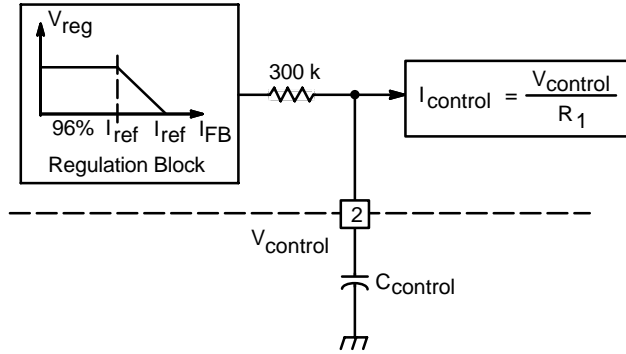
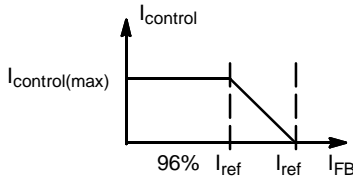

Figure 30.  $V_{control}$  Low-Pass Filtering
Figure 32. Regulation Block
Control current  $I_{control}$  is a roughly constant current that comes from the PFC output voltage  $V_{out}$  that is a slowly varying signal. The bandwidth of  $I_{control}$  can be additionally limited by inserting an external capacitor  $C_{control}$  to the control voltage  $V_{control}$  pin (Pin 2) in Figure 30. It is recommended to limit  $f_{control}$ , that is the bandwidth of  $V_{control}$  (or  $I_{control}$ ), below 20 Hz typically to achieve power factor correction purpose. Typical value of  $C_{control}$  is between 0.1  $\mu F$  and 0.33  $\mu F$ .
Feedback current  $I_{FB}$  which represents the output voltage  $V_{out}$  is processed in a function with a reference current ( $I_{ref} = 200 \mu A$  typical) as shown in regulation block function in Figure 32. The output of the voltage regulation block, low-pass filter on  $V_{control}$  pin and the  $I_{control} = V_{control} / R_1$  block is in Figure 30 is control current  $I_{control}$ . And the input is feedback current  $I_{FB}$ . It means that  $I_{control}$  is the output of  $I_{FB}$  and it can be described as in Figure 32. There are three linear regions including: (1)  $I_{FB} < 96\% \times I_{ref}$ , (2)  $96\% \times I_{ref} < I_{FB} < I_{ref}$ , and (3)  $I_{FB} > I_{ref}$ . They are discussed separately as follows: